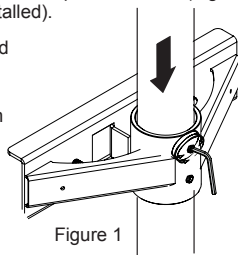

Figure 1
- For dual 1.5" on center channel you will need to use the four outer holes on the base of the pole (Figure 1)
- Insert the four (4) 1/4 20" Flat Hex Screws through the top of the four holes on base shown in figure 1.
- Slide your mounting arm adapter bracket over the pole and base (Figure 1) (not included, but should be previously installed).